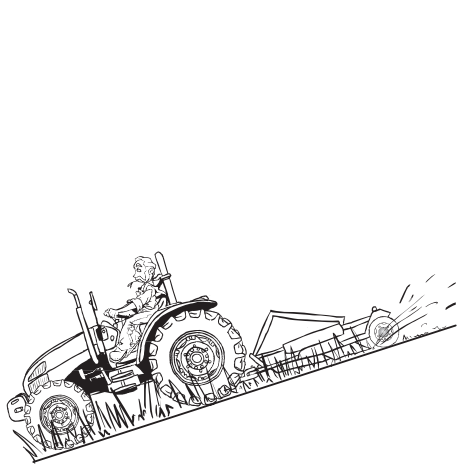

Fig. 2-23
- If you need cross a steep slope, do not steer uphill, but slow down and take a wide turn. Always drive straight up or down a slope, never across it. When travelling up or down a slope, keep the heavy end of the tractor and the implement pointed uphill. (Fig.2-23)